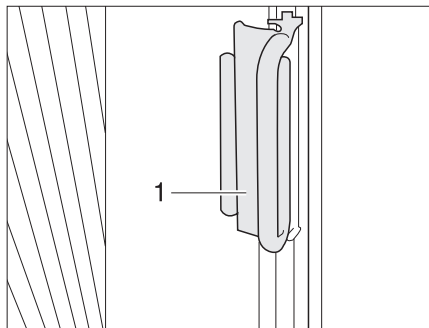

Fig. 52 Handle Roman shade for driver's and front passenger's windows
- Grasp the handle (Fig. 52,1) of the Roman shades and draw carefully forwards until the magnetic catch keeps the Roman shades closed.
- Push the handle (Fig. 52,1) onto the attachment. The Roman shade is secured.